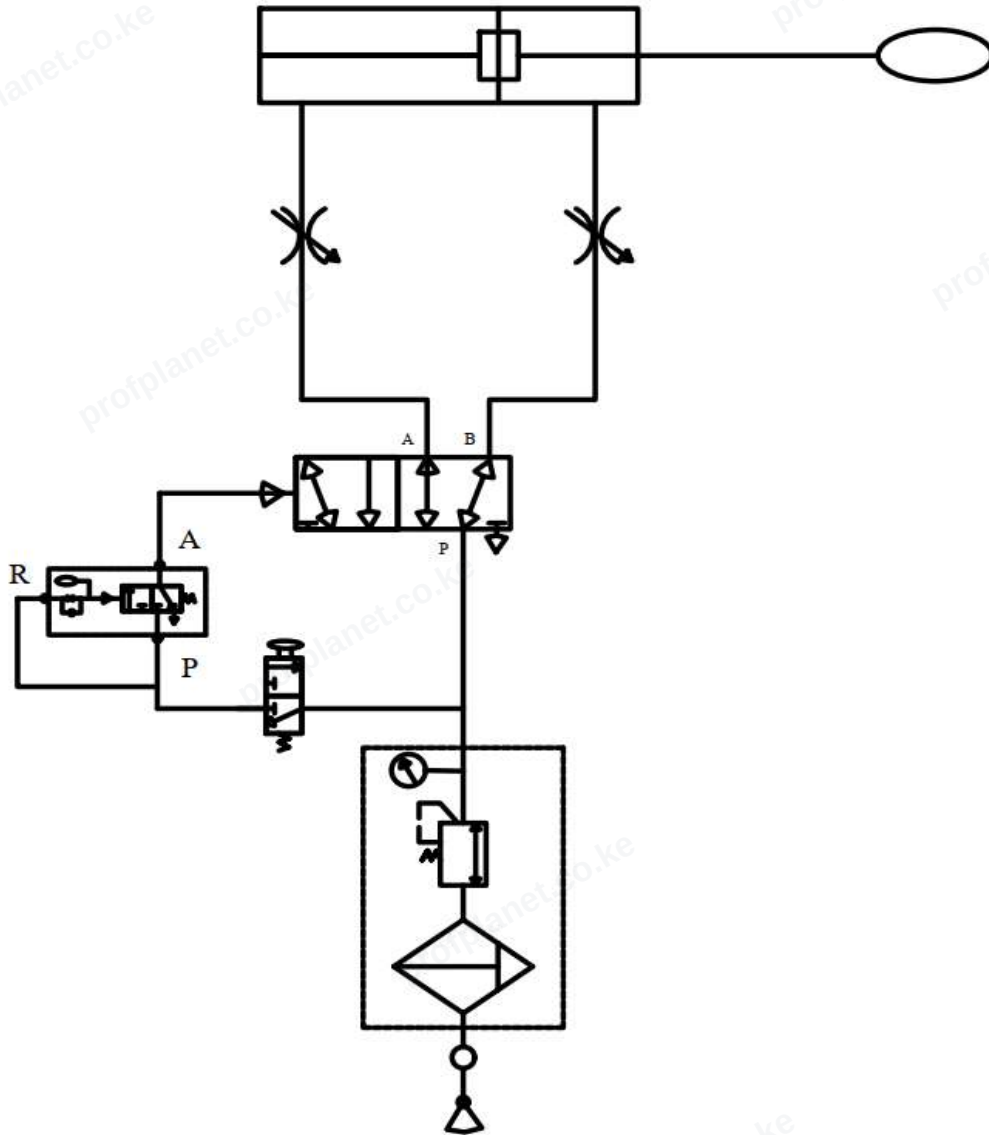
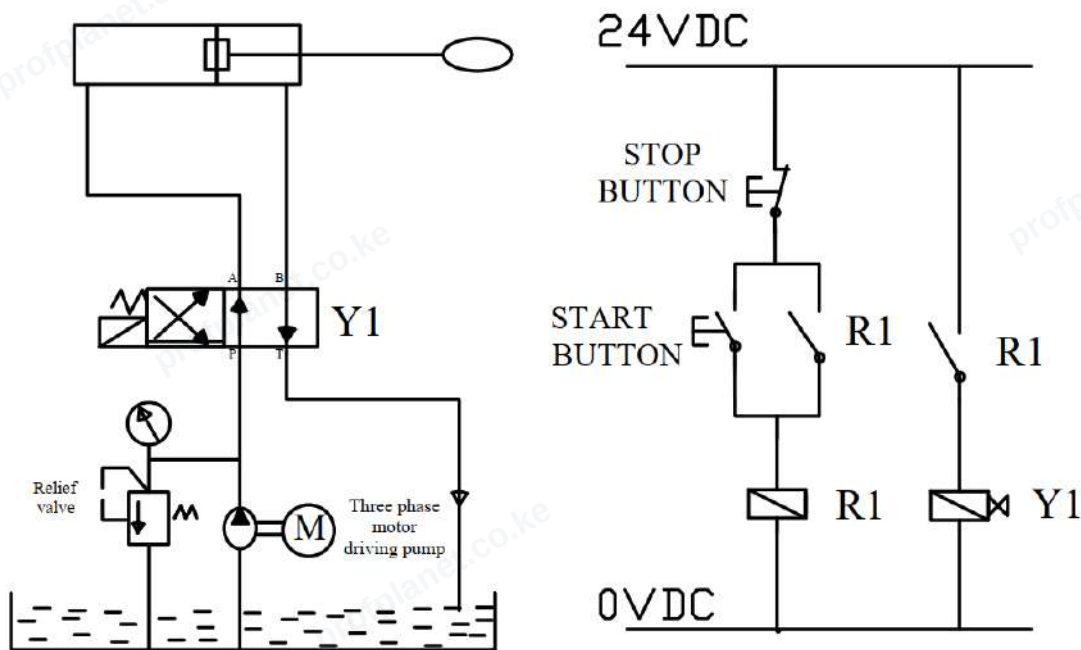

Figure 1
Figure 2
1. *Figure 1* shows a pneumatic circuit with a solenoid valve, a pneumatic timer and button valve. *Figure 2* shows an electrically controlled hydraulic circuit. You are required to perform the following tasks;
TASK 2: Install the circuits as indicated in *figure 2*.